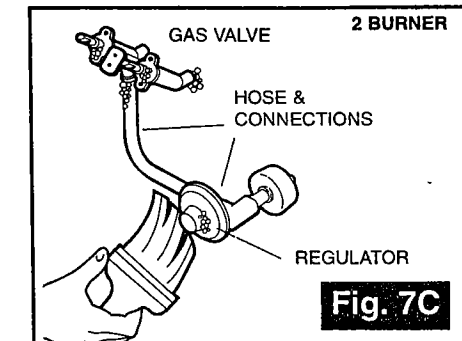
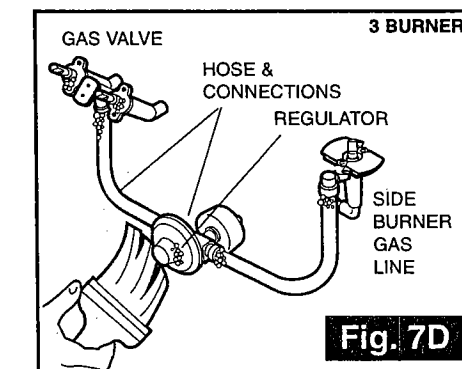

Fig. 7C
Fig. 7D
- All hose connections (see Figure 7C) including side burner tubing, if equipped (see Figure 7D)
- All valve connections (see Figure 7C & D)
- All hose connections (see Figure 7C)
- All valve connections (see Figure 7C & 7D)